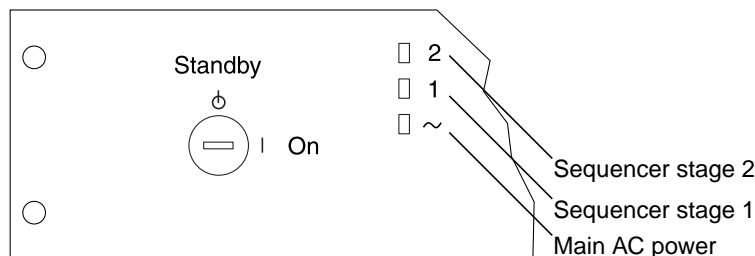

FIGURE 4-7 Front Sequencer Status Lights
8. Turn the key switch at the front of the storage system to the On position (FIGURE 4-7).